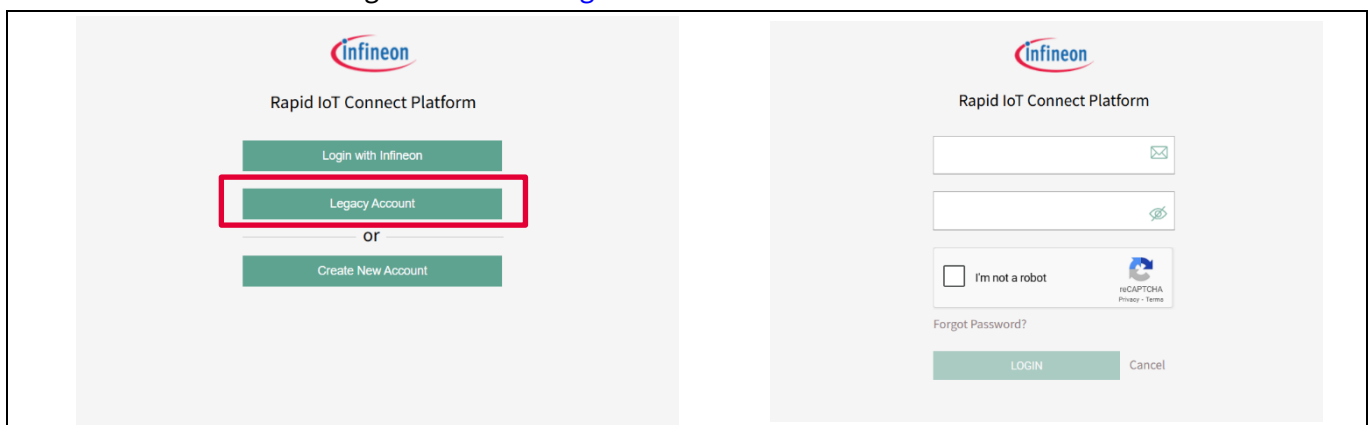

Figure 7 Rapid IoT Connect Cloud Platform login
3. Enter the credentials to login as shown in Figure 7